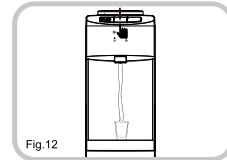

Fig.12
2. Press down the room temperature water button. (Fig.12)